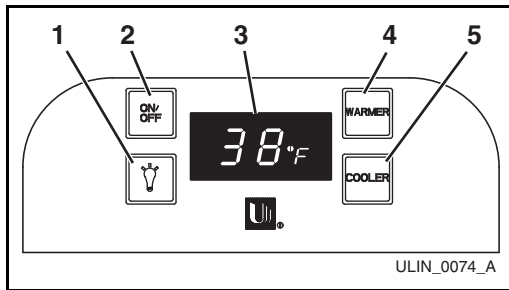

Figure 3
The LIGHT button (**Figure 3, 1**) on the control panel is used to change the lighting functions.
1. Press and hold the LIGHT button (**Figure 3, 1**) for ten seconds and release (the °F symbol will flash briefly at the end of the ten second period).
2. The interior light and control display (**Figure 3, 3**) will go dark for the next 36 hours.